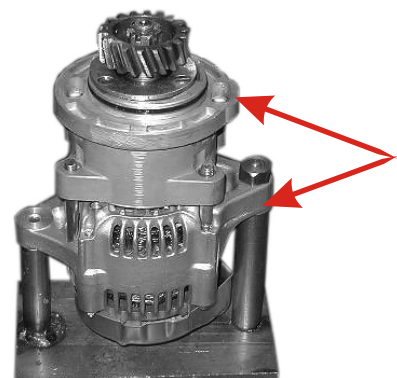

Fig. 116.
- Match the holes with the alternator studs the way that the lobe of the external circumference faces the nearest alternator bracket (Fig. 116)